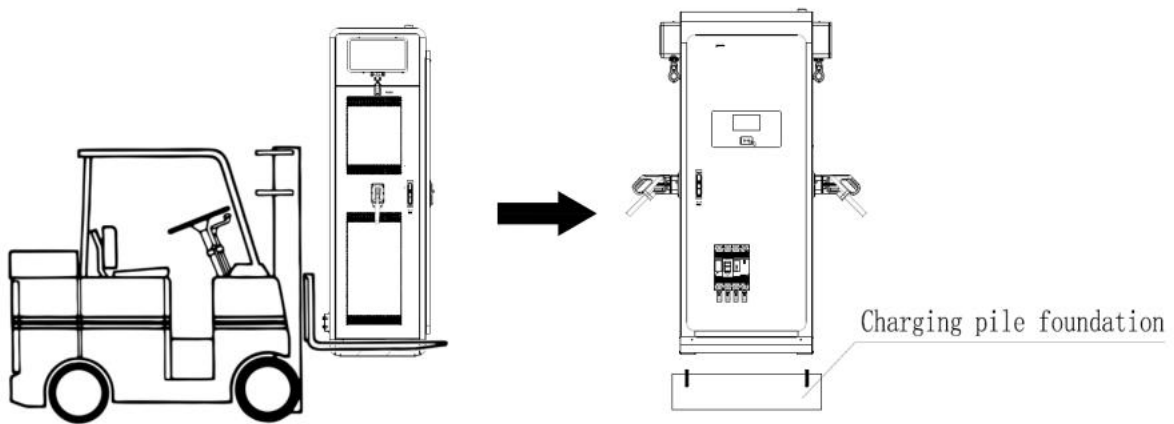

Figure 10
- Open the front door of the charging pile, and then use a forklift to move the charging pile to the position above the foundation, as shown in Figure 10.